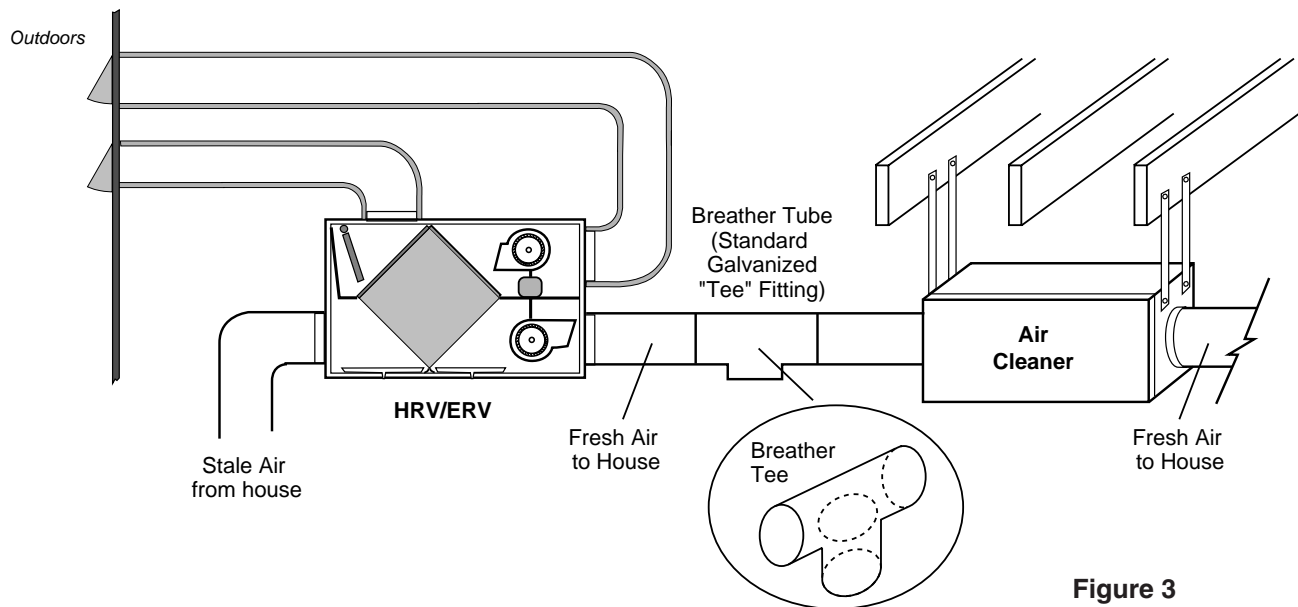

Figure 3
The TFP should be located in the main trunk of the fresh air to house line, after the Heat Recovery Ventilator (HRV) and before any branch lines. (Fig. 3)
1. Locate mounting bolts (4) on side of TFP cabinet for vertical hanging (Fig. 3) and remove.
1. Install (2) 7" collars (provided) on TFP cabinet with (8) 8/32" X 3/8" sheet metal screws provided.
4. A short piece (1-2 foot) of flexible ducting should be used on both sides of the TFP (Fig. 3). This will reduce vibration and noise transfer if present.